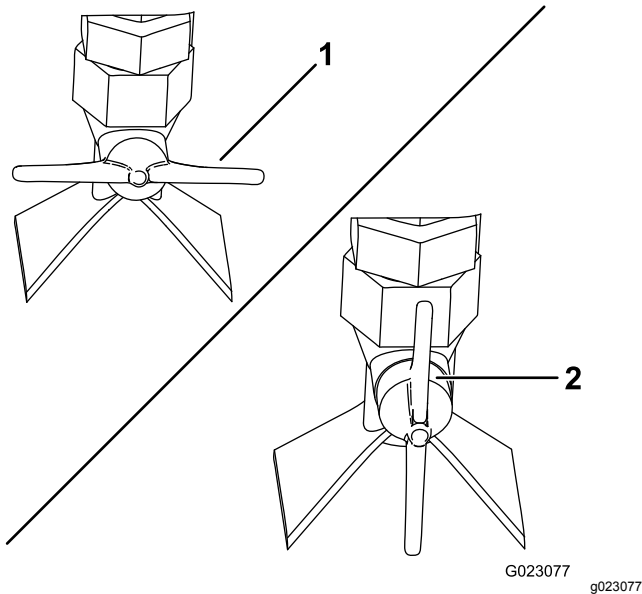

Figure 63
- For fan-shaped spray, turn the spray valve on the side of the nozzle horizontal (Figure 63).
- For a stream, turn the spray valve on the side of the nozzle vertical (Figure 63).